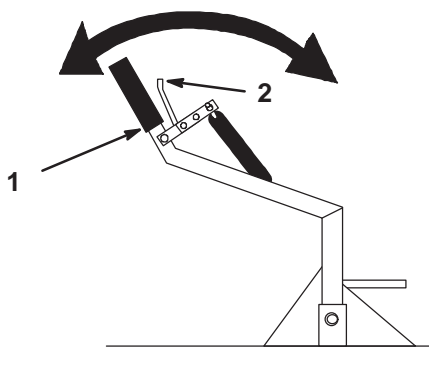

Figure 22
You can turn the blade from side to side, in 5 positions. You control the angle using the control handle on the right hand side of the frame (Fig. 22).
1. Squeeze the release lever toward the handle (Fig. 22).